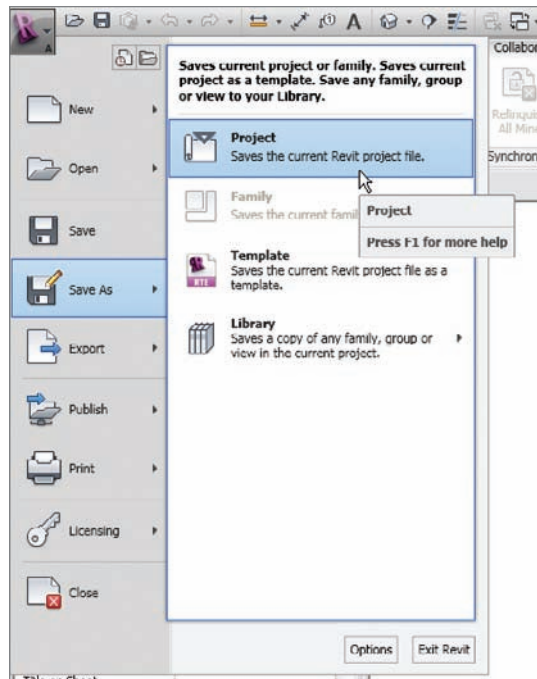

FIGURE 22.5 Saving the project using Save As
1. Click the Application button and choose Save As > Project, as shown in Figure 22.5.